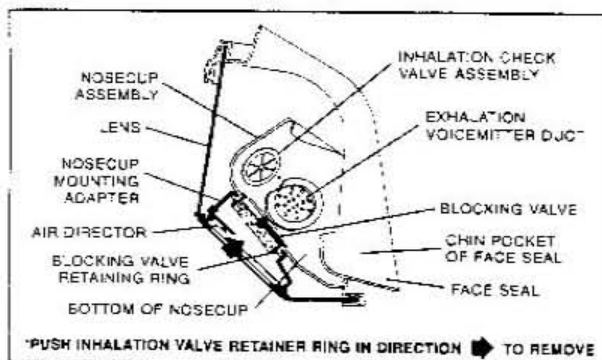

Figure 3 - Facepiece / Nosecup
2. From outside of the facepiece, using thumbs through the adaptor port, carefully press the rim of the black plastic blocking valve retaining ring and remove it from the nosecup (see Figure 3).
1. Insert nose cup assembly into black nose cup mounting adapter of facepiece assembly. Make sure raised rib in groove of nose cup is positioned in notch of nose cup mounting adapter, and bottom of nose cup is behind chin pocket of face seal. See Figures 3 and 6.
2. From inside of facepiece, insert small diameter of blocking valve retainer ring into nose cup as shown in Figure 3. Place fingertips under valve disc, on sealing surface of retaining ring and push retaining ring firmly while observing ring through adapter port to be sure ring is fully seated.